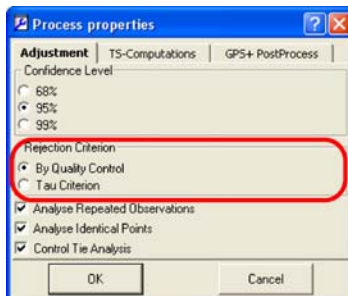

Figure 6-22. Select Rejection Criterion Test
2. On the Adjustment tab, select the desired rejection criterion (Figure 6-22).
Note that $\text{Tau}_{\text{critical}}$ depends on the number of degrees of freedom and the selected level of confidence (Figure 6-22 on page 6-19).